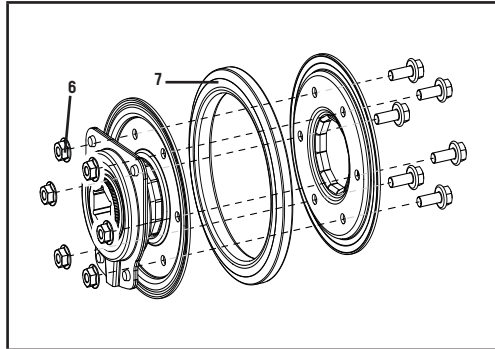

Figure 47
- Unscrew the six M6 × 16 bolts (6) of the friction disc assembly to discard the worn friction wheel rubber ring (7) and replace with a new one (Fig. 47).